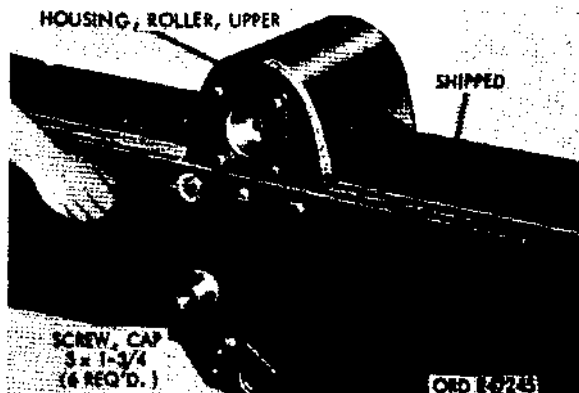

Figure 457. Removing upper roller housing assembly
- (f) Remove three cap screws and lockwashers on each side of upper roller housing (fig. 457) and remove housing assembly from shipper.